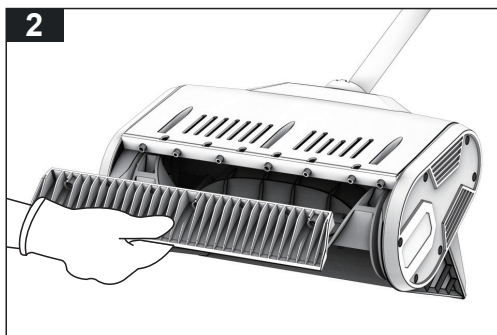

Fig. 14
- Remove the old scraper blade. (Fig.14)